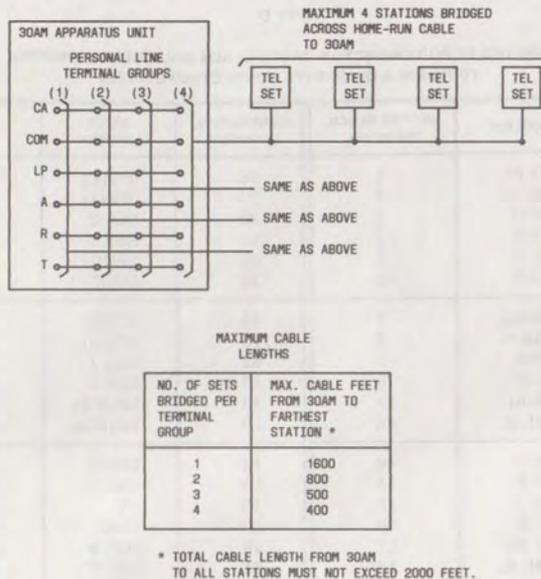

Fig. 12—Personal Line Cabling Limitations
**3.16 Personal Line Cabling**—Personal lines do not utilize the system interconnection cables but require separate connections between stations and 30AM apparatus units. Figure 12 illustrates the limitations on the connection of personal lines. Bridged cabling can connect a maximum of 16 sets to a 30AM apparatus unit. Refer to paragraph 3.56 for detailed instructions on installing personal lines.
3.27 Convert the 86A connecting block (Fig. 12) supplied with the set to an 85A block and mount it on the wall plate as follows: